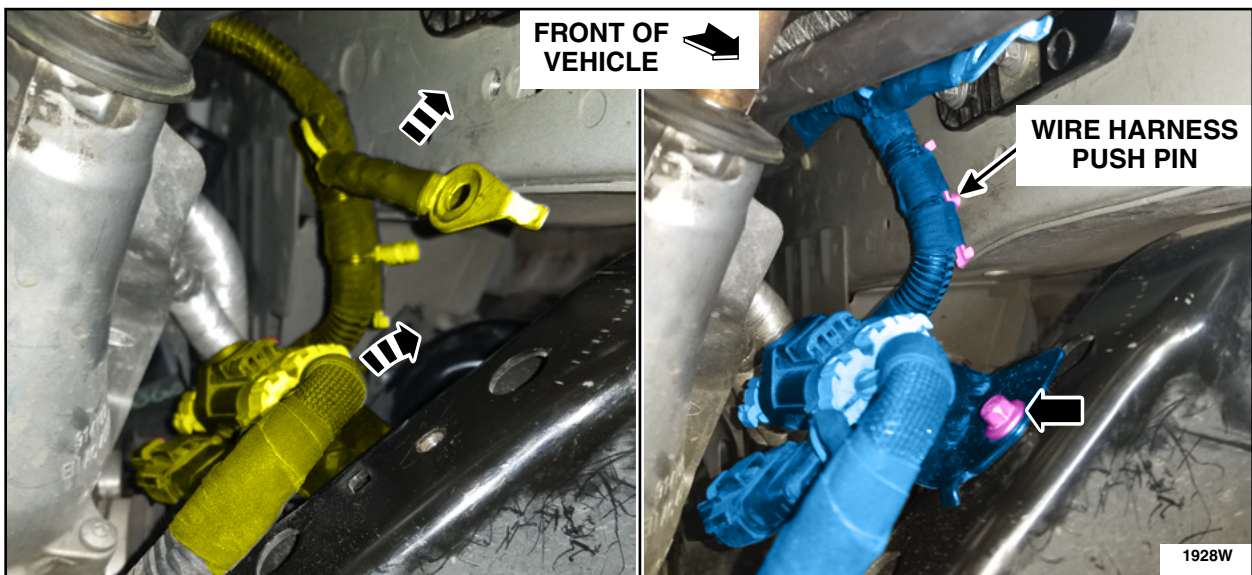

FIGURE 25
26. Position back the wire harness. Install the wire harness bracket bolt and wire harness push pin. See Figure 25.